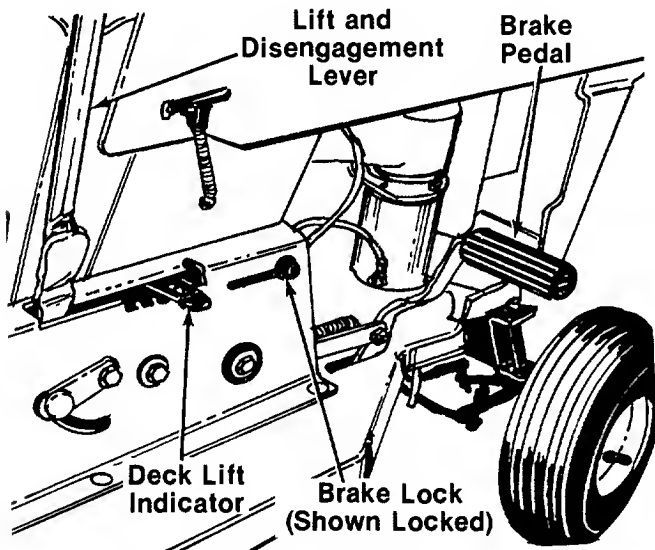

FIGURE 11.
The brake pedal is located on the right hand side of the tractor and is operated by depressing it with your right foot. See figure 11.
The brake lock is located on the right hand side of the tractor. To lock the brake, depress the brake pedal and lift up the lock button. The pedal will stay depressed. To release, depress the brake pedal. Always lock the brake when you park the mower. See figure 11.
The lift and disengagement lever is used to raise and lower the cutting deck. Pulling it all the way back and locking it disengages the blades. The lift and disengagement lever **must** be in the disengaged position when starting the engine and when shifting into reverse. See figure 11.
The deck lift indicator marks the position being used for the lift lever. Select the lift lever position desired, press the indicator lever outward, move it to the position immediately below the lift-lever and release the indicator lever. See figure 11.
4. Place the lift and disengagement lever in the DISENGAGED position. See figure 11.